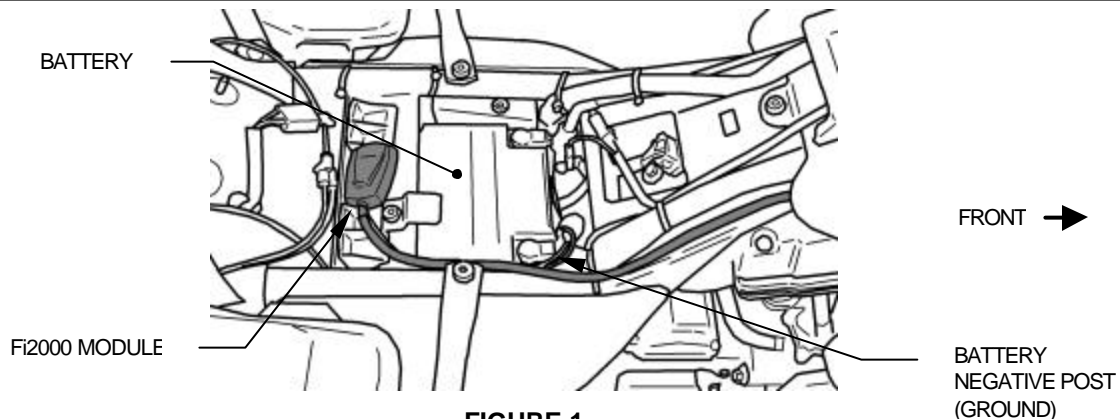
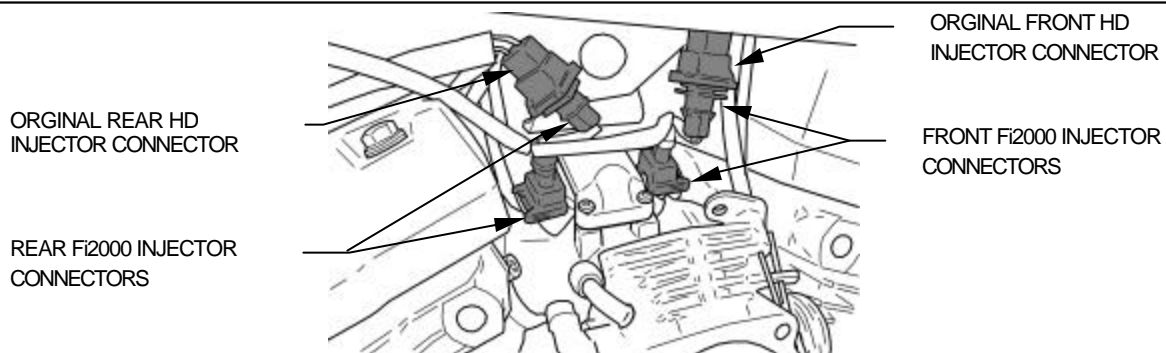
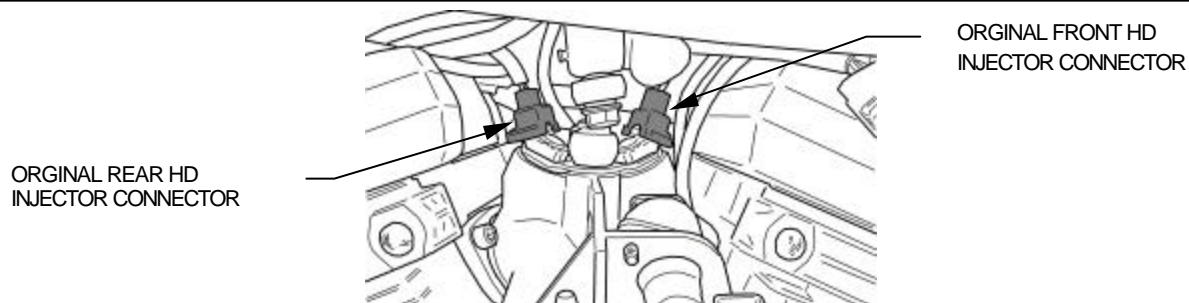

FIGURE 1
FIGURE 2
FIGURE 3
4. Lay the Fi2000 module in place, but do not attach it to the motorcycle, and run the wiring harness up to the manifold area behind the other wiring of the throttle body (See figure 1). Attach the Fi2000 module's forward injector plug with the grey and red wires to the front injector. Take the original HD connector and insert the corresponding Fi2000 connector with the brown and red wires into it. (For model years 02' and Up refer to figure 2, for model years 95-01 refer to figure 3)
5. Attach the Fi2000 module's rear injector plug with the blue and red wires to the rear injector. Then take the original HD connector and insert the corresponding Fi2000 connector with the green and red wires into it. (For model years 02' and Up refer to figure 2, for model years 95-01 refer to figure 3). Use one of the supplied zip-ties to secure the Fi2000 wire harness to the upper motor mount before it is routed back towards the seat area.
6. Route the BLACK wire from the Cobra module to the negative post of the battery as shown in figure 1.
7. Before re-installing the gas tank, seat and air cleaner assembly, verify your connections. Remove the door from the Fi2000 box to expose the LED's. Verify the wire connections by (1) turning the ignition on, prior to starting, and see if all three LED's are on steady. If you have no light, your ground connection (BLACK wire) has not made proper contact or your front injector connection is not complete. (2) After achieving a steady light from all three LED's, start the motorcycle, wait 15 seconds and let it idle, the green light should now be the only LED on. If all three LED's are still on after start up, verify you have attached the injector connectors correctly. Reattach the door when finished. **Note:** Make sure the ignition is turned off before changing any connection.
9. Remove the backing from the Velcro and attach the Fi2000 next to the battery as shown in fig 1.